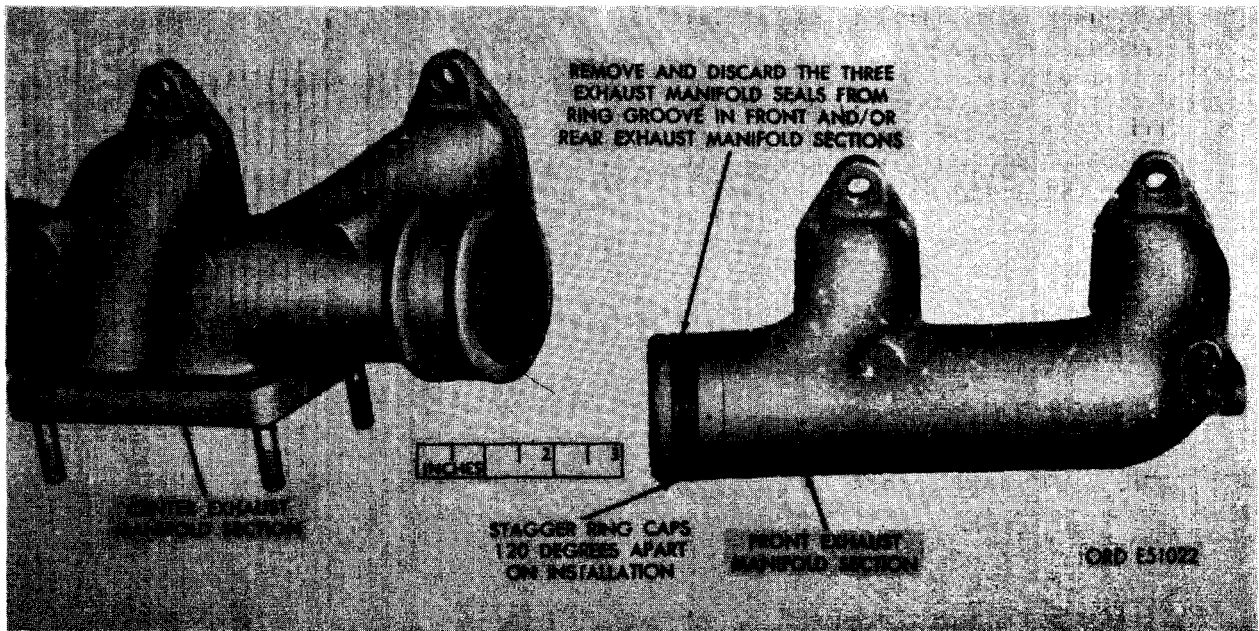

FIGURE 174. REMOVING OR INSTALLING EXHAUST MANIFOLD RING TYPE SEALS.
- (9) Refer to figure 174 and separate the three exhaust manifold sections. The sections may be replaced separately. To replace a section the entire manifold assembly must be removed from the engine. Remove the seals from the manifold sections.